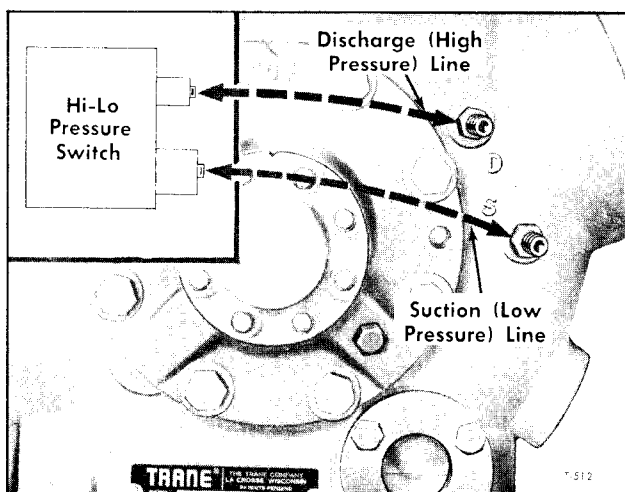

Figure 25—Hi-Lo Pressure Switch Line Connections
8. Disconnect HI-LO pressure switch hoses at compressor fittings (fig. 25). Cap the connections and tie hoses clear of compressor.